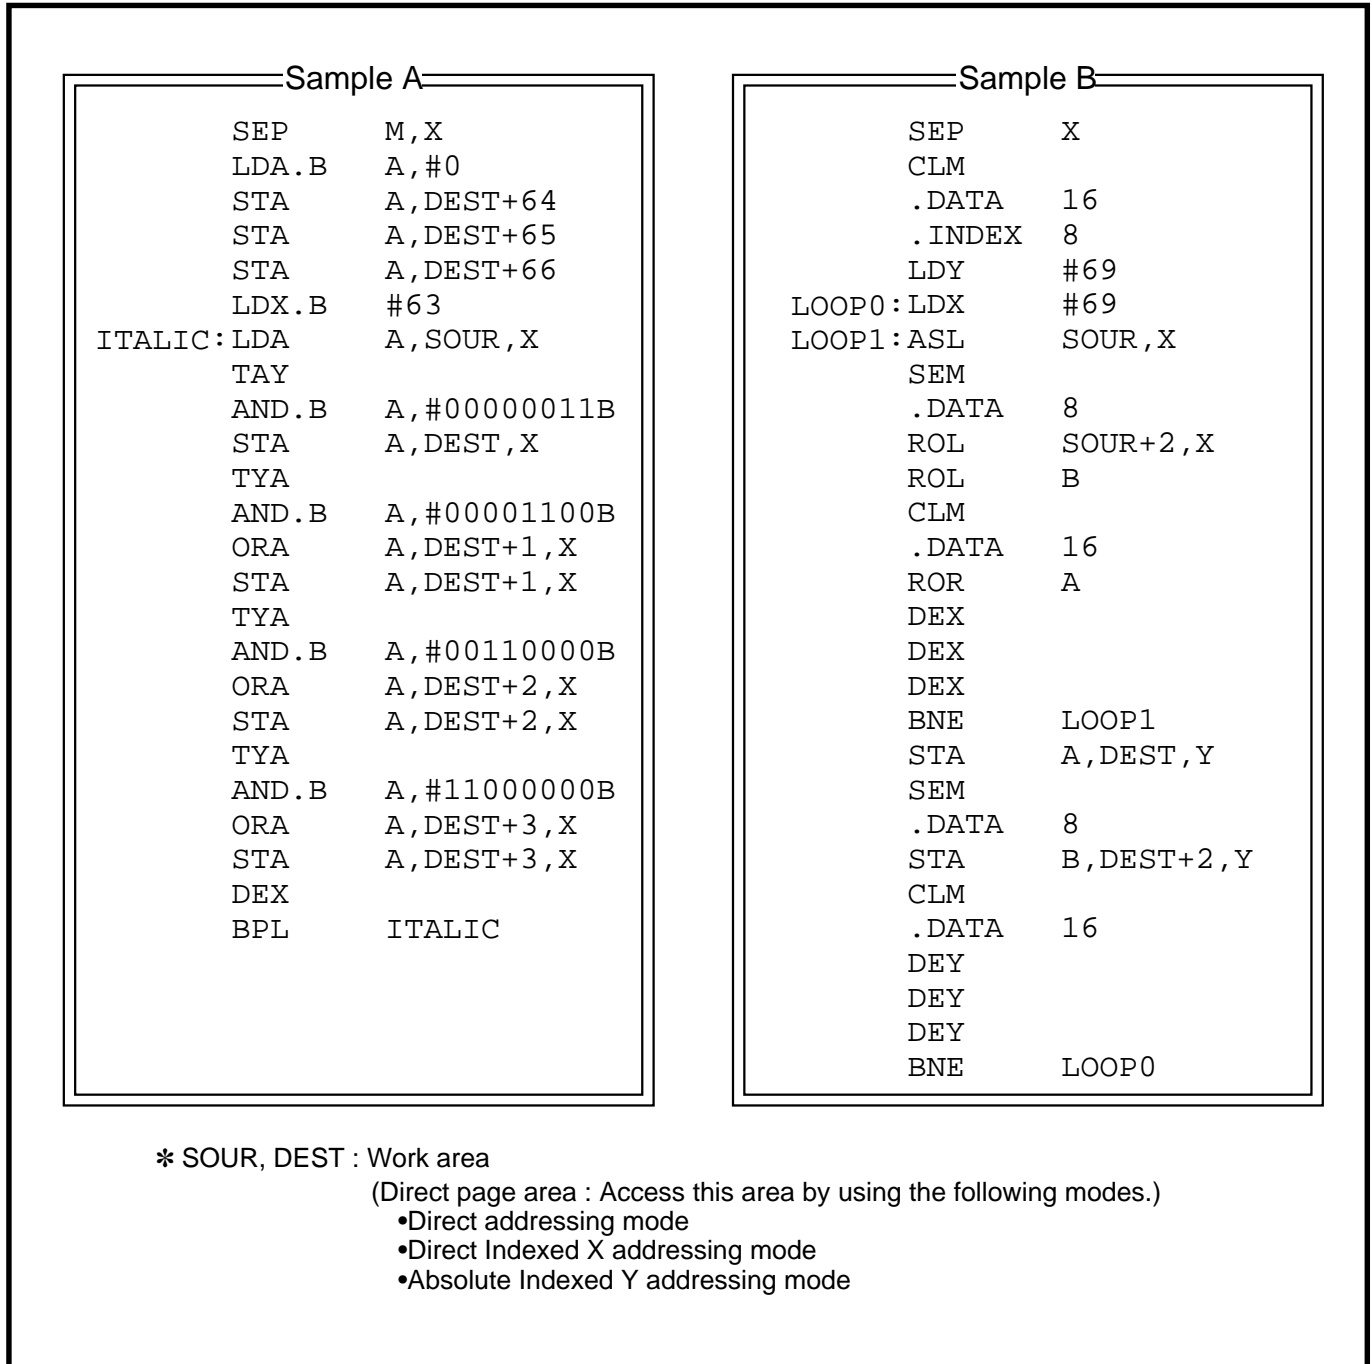
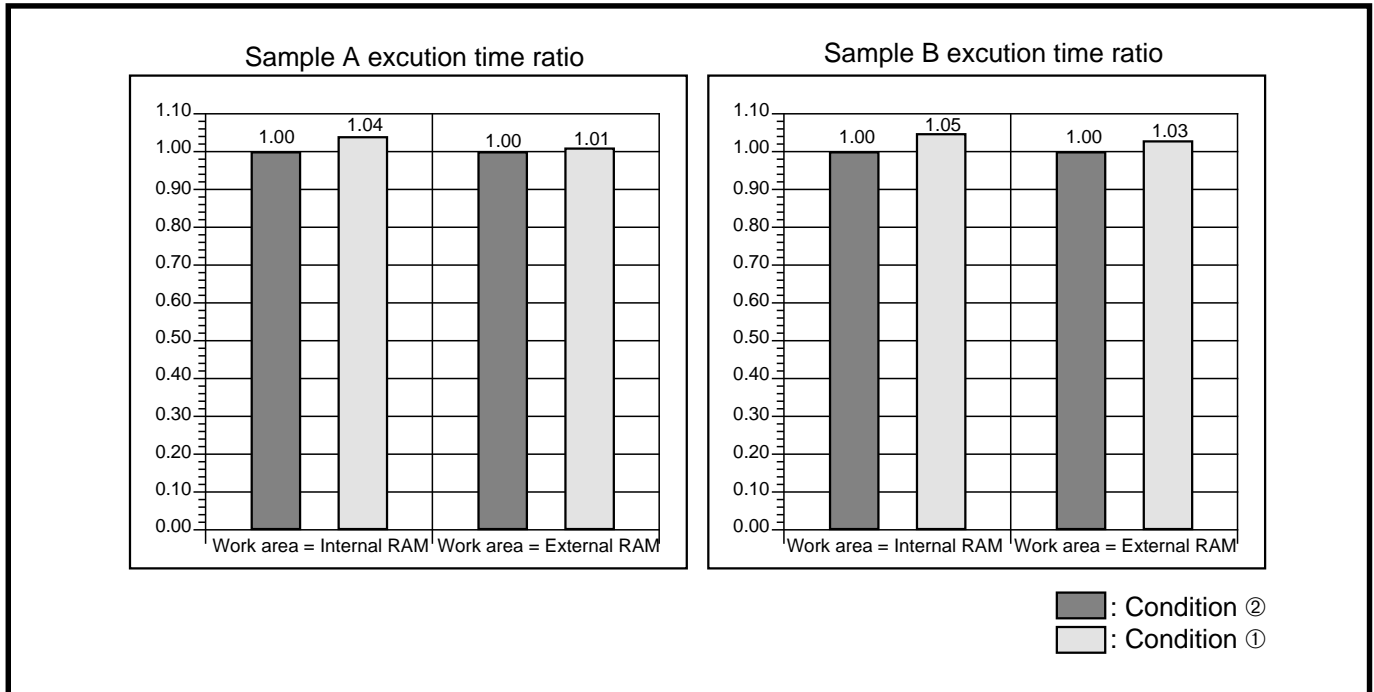

Fig. 16.3.1 Sample program list
Fig. 16.3.3 Execution time ratio
Internal areas are always accessed with data bus of which width is 16 bits and no software Wait. In the external areas, the external data bus width and software Wait are selectable. Table 16.3.1 lists the sample program (Refer to “**Figure 16.3.1.**”) execution time ratio depending on these selection and usable memory areas.
Figure 16.3.3 shows the execution time ratio when sample programs in Figure 16.3.1 are executed on the two conditions in Table 16.3.2. Figure 16.3.2 shows the memory assignment at execution rate comparison. The execution time ratio depends on the program or the usage conditions.
Figure 16.3.3 shows that there is almost no difference between conditions ① and ② about the execution time. The bus buffers become unnecessary when using the specified memory. (Refer to “Table 16.1.6.”) Considering this, the case where software Wait is inserted with  $f(X_{IN}) = 20$  MHz (condition ①) is superior in the cost performance.